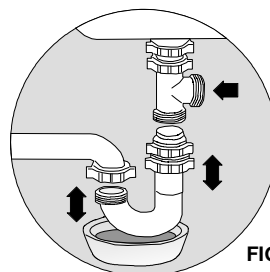

FIG. 5 Quick Connect / Push-In Connector
6. Insert 3/8" drain tube into push-in connector to complete the installation. (See Fig. 5)